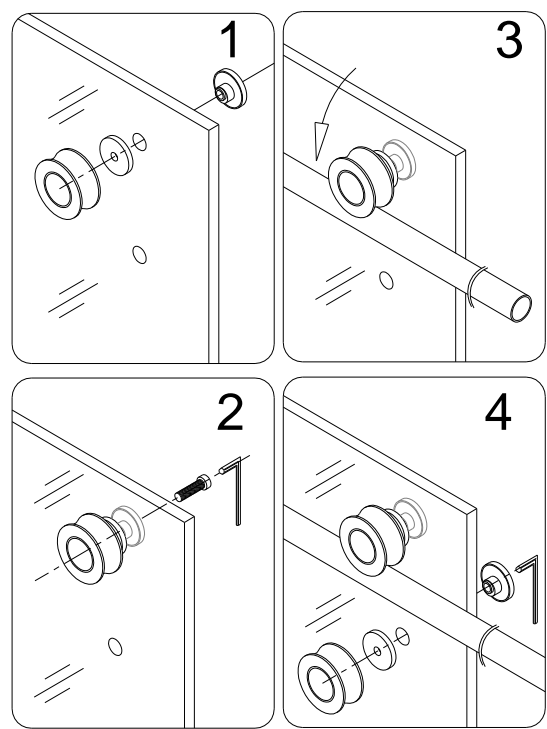

Fig. 16
7. Attach two top **Rollers (04)** onto the **Sliding door (05)**. Suspend the door by hanging the rollers onto the **Running rail** and slide the bottom edge of the **Sliding door** in the groove of the **Guide block**. Adjust the fasteners on both top rollers to ensure that the bottom edge of the glass does not touch the bottom of the guide block. Then mount two lower **Rollers (04)** onto the door to secure the door to the **Running rail**. Secure it in place. See fig. 16&17 for details.